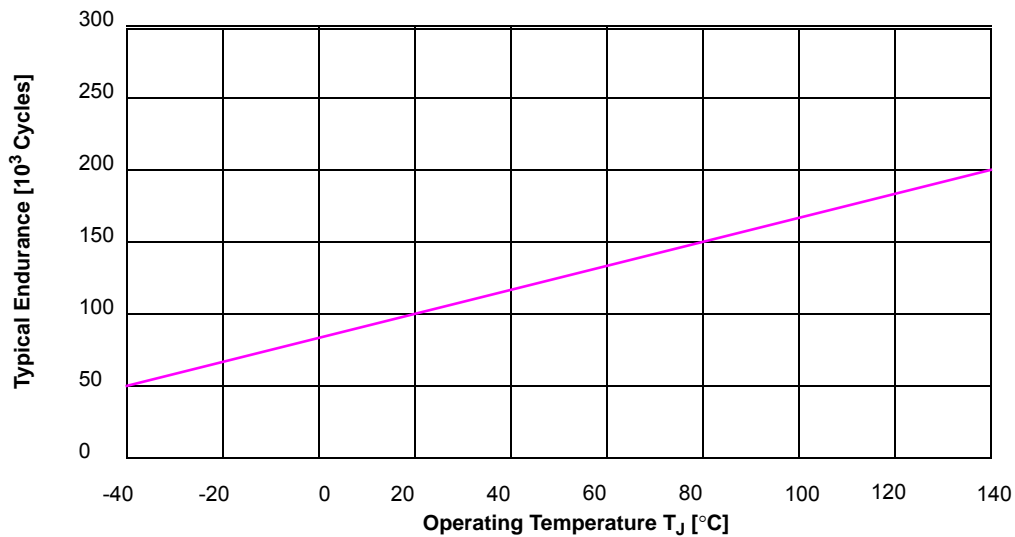

Figure 10. Typical Flash Cycling Endurance vs. Temperature
- 39. Spec table quotes typical endurance evaluated at 25 °C for this product family, typical endurance at various temperature can be estimated using the graph in Figure 10. For additional information on how Freescale defines Typical Endurance, refer to Engineering Bulletin EB619.